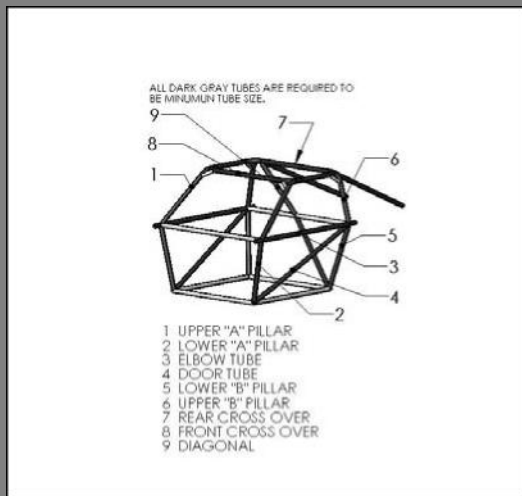

Figure 1: Roll Cage
All roll cages must be constructed with at least one (1) front hoop (top of cage to floor), one (1) rear hoop (top of cage to floor), or two (2) lateral hoops, two (2) interconnecting top bars, two (2) rear down braces and one (1) diagonal brace and necessary gussets, see Figure 1. If front and/or rear hoop terminate at elbow/door bar, lower A-pillar and/or B-pillar must be made of same tubing size as roll cage. Upper main, front, rear, and lateral rollbar hoops must be made in one piece without joints. Centerlines of all required tubes must converge at intersections.